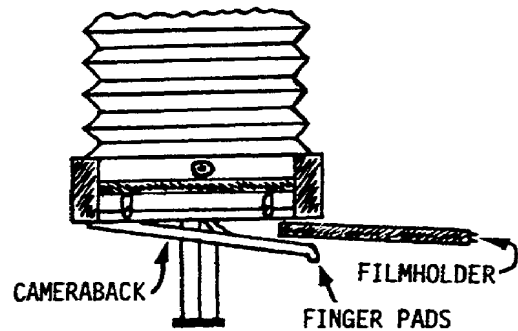

Figure 1-45. Inserting Holder.
(8) Inserting cut-film or film pack adapter. The spring-loaded focusing frame is attached to the camera back with the camera back release spring, which allows you to insert the cut-film holder and film pack adapter into the camera as follows (fig 1-45):